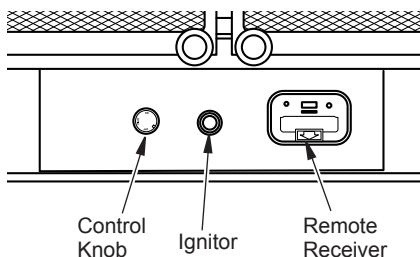

Figure 22 - Heater Control Locations
4. Push in control knob slightly and turn clockwise ↻ to the OFF position (see Figure 22).
5. Wait five (5) minutes to clear out any gas. Then smell for gas around heater and near the floor. If you smell gas, STOP! Follow "B" in the safety information above. If you do not smell gas, go to the next step.
6. Push in control knob slightly and turn counterclockwise ↻ to the PILOT position. Press in control knob for five (5) seconds.